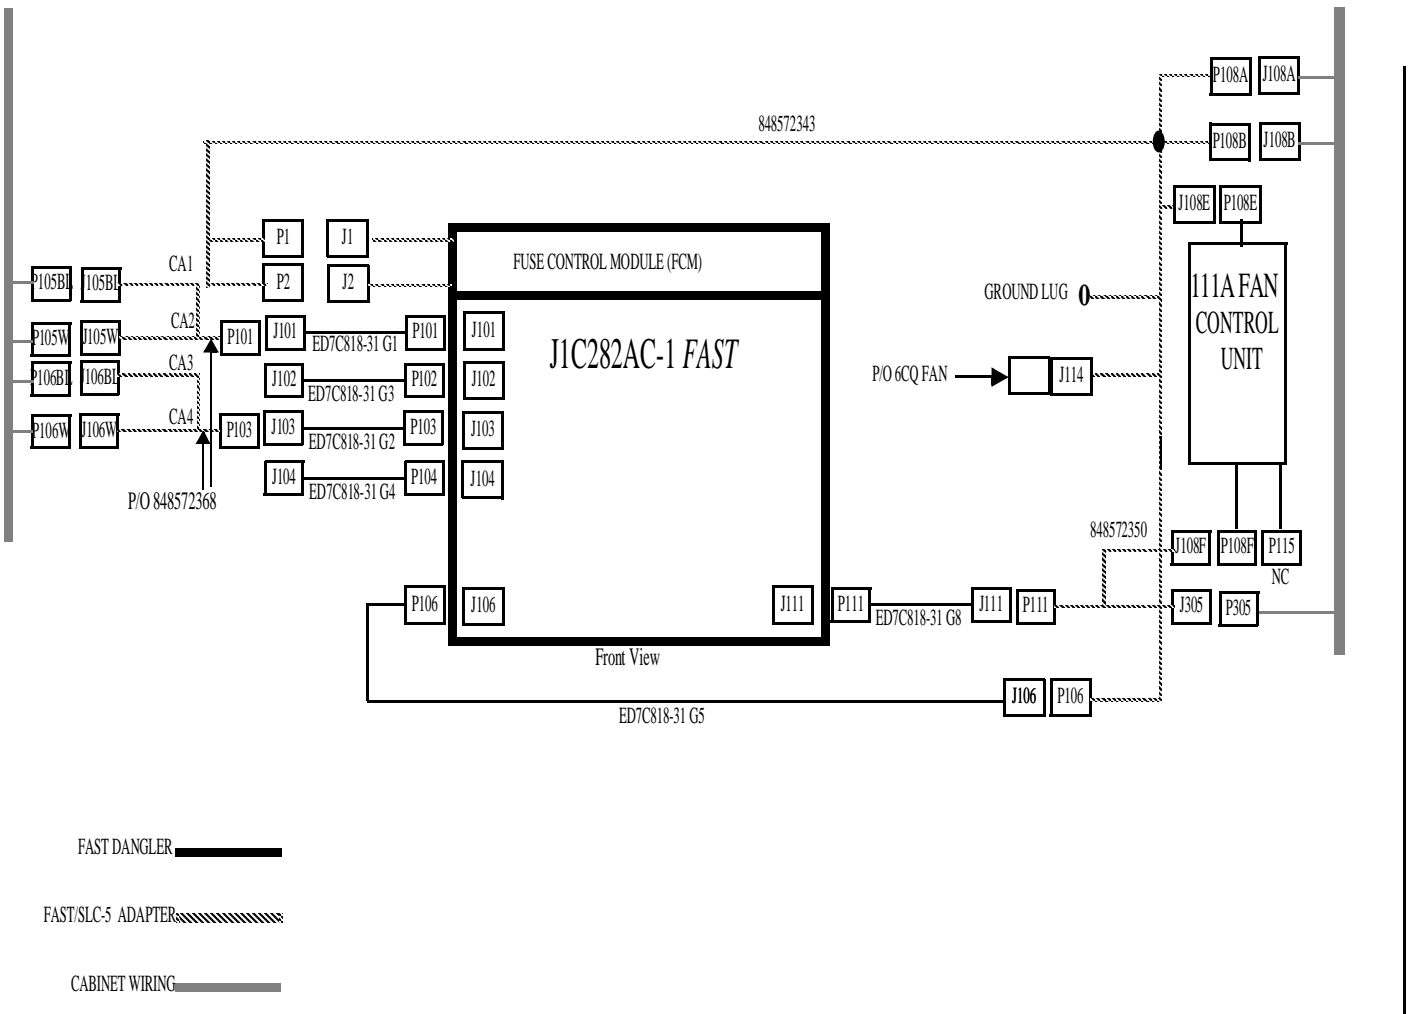
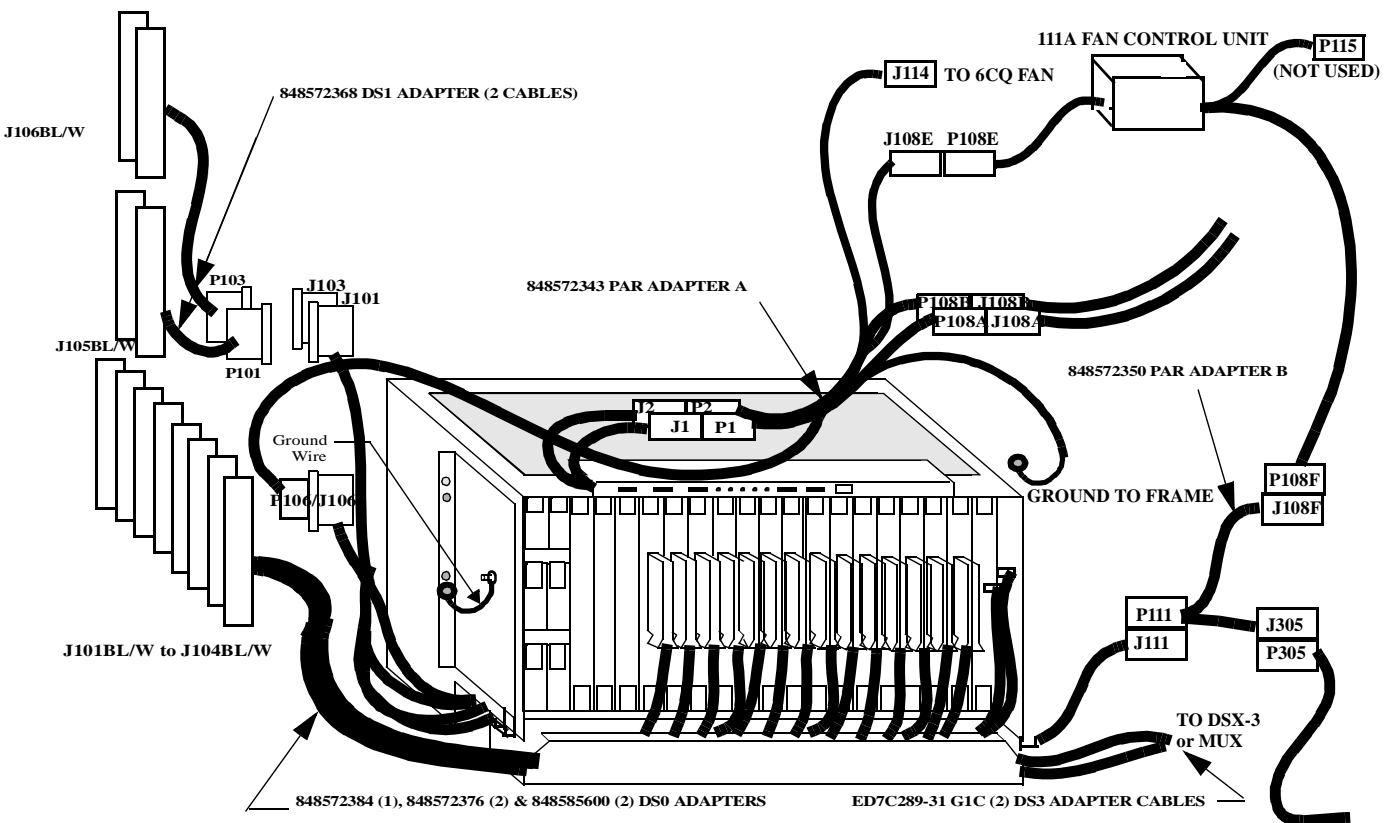

Figure 9. DS1, PAR A and PAR B Adapter Cables
Figure 10. General Method (Path) of Cabling
C I \_\_\_\_  Step 13: Locate 848572343 SLC/FAST Power/Alarm/Ringing (PAR) Cable Adapter (A). Refer to Figure 9 which identifies its electrical interfaces and Figure 10 which describes its physical application in the cabinet. Engage adapter cable connectors P1, P2 and P106 in FAST dangler connectors J1, J2 and J106 respectively. Also on this same adapter cable connect J108E and J114 to the 111A Fan Control Unit dangler P108E and the 6CQ Fan connector (undesignated) respectively. Connect the ground lead terminal to a fastener on the cabinet upright. Connect P108A and P108B (p/o PAR cable) to the auxiliary connector
C I  Step 14: Locate the 848572350 *SLC/FAST* PAR Adaptor B Cable Assembly. Refer to Figure 9 which identifies its electrical interfaces and Figure 10 which describes its physical application in the cabinet. Engage P111 connector to *FAST* connector J111 (on dangler). Connect J305 to cabinet connector P305. Insert J108F into the 111A Fan Control Unit dangler connector P108F.
C I  Step 15: Locate the 848572368 *SLC/FAST* DS1 Cable Adapter which consists of two identical cables except for connector marking. Refer to Figure 9 which identifies its electrical interfaces and Figure 10 which describes its physical application in the cabinet. Connect the first cable assembly with P101 to J101 dangler on *FAST* shelf. Dress the 710 connectors J105BL and J105W into the left duct (do not connect). Connect the second cable assembly with P103 to J103 dangler on *FAST* shelf. Dress the 710 connectors J106BL and J106WH into the left duct (do not connect).
C I  Step 18: In the following steps the AP connectors will be engaged from AP15 to AP1, with their associated cables dressed in the cable trough, at the bottom of the *FAST* shelf, and travel to the left. All 710 connectors will be engaged in the left duct. See Figure 10 for physical cable paths, Figure 11 for electrical interfaces and Figure 12 for AP faceplate connections and .